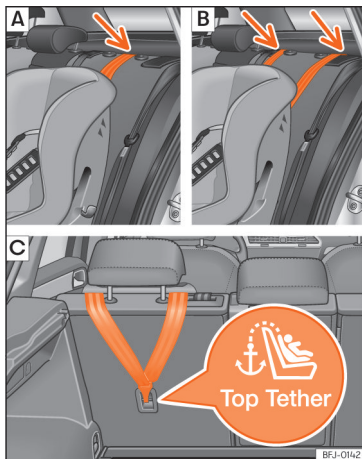
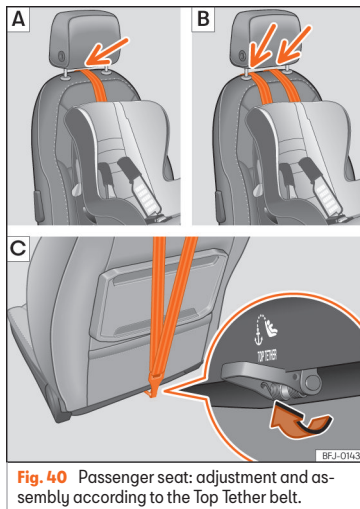

Fig. 39 Second row outermost seats: adjustment and assembly according to the Top Tether belt.
Fig. 40 Passenger seat: adjustment and assembly according to the Top Tether belt.
»» Fig. 39. For the front passenger seat, the ring is below the backrest »» Fig. 40.
- Position the belt under the head restraint »» Fig. 39 [A] or [B], »» Fig. 40 [A] or [B] (depending on the instructions of the seat itself, lift or remove the head restraint if necessary).
- Slide the strap and secure it properly with the anchorage of the backrest »» Fig. 39 [C], »» Fig. 40 [C].